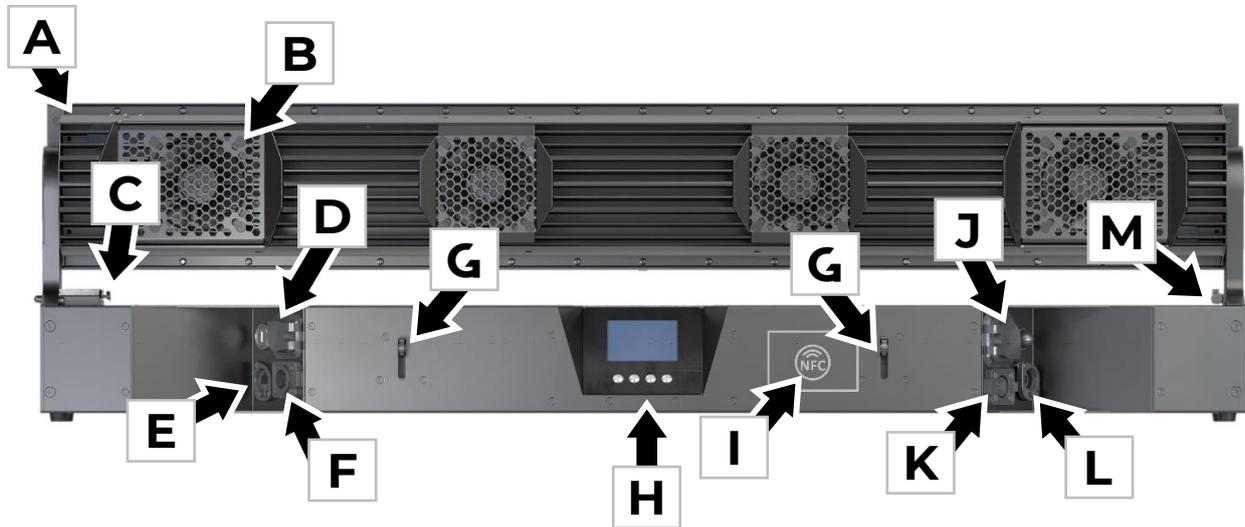

Figure 2. impression X5 Bar IP 1000 overview
3. See Figure 2 on page 13. Open one of the retractable safety cable attachment eyelets marked **G** in Figure 2 and fasten the safety cable to it.
4. If there is any danger that the fixture may swing dangerously from the safety cable if a primary attachment fails, open the second retractable safety cable eyelet also marked **G** in Figure 2 and add a second safety cable as described above, fastening it to this second eyelet.